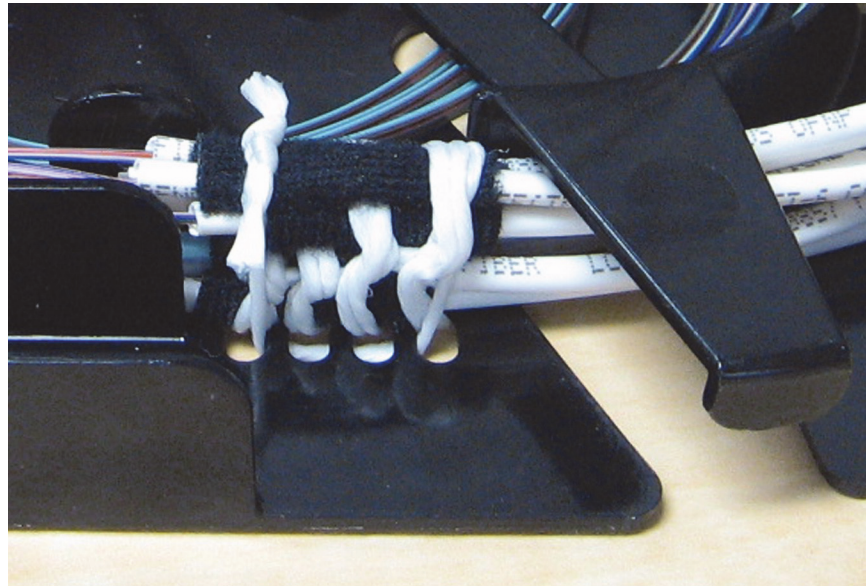
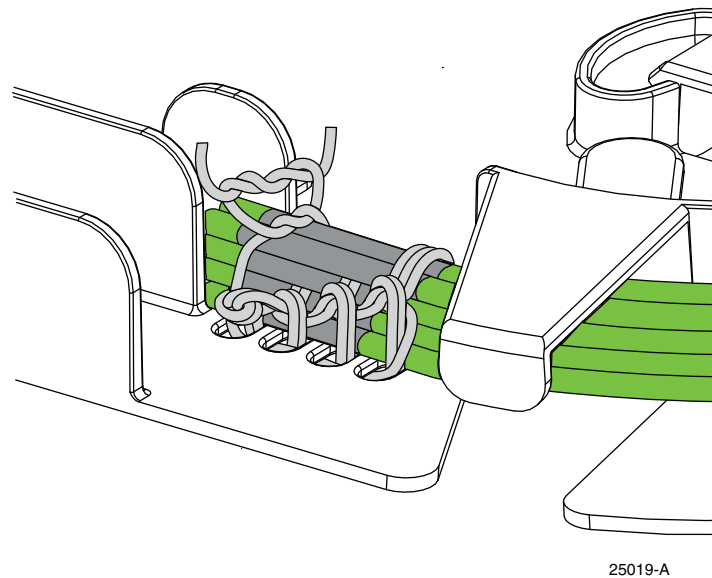
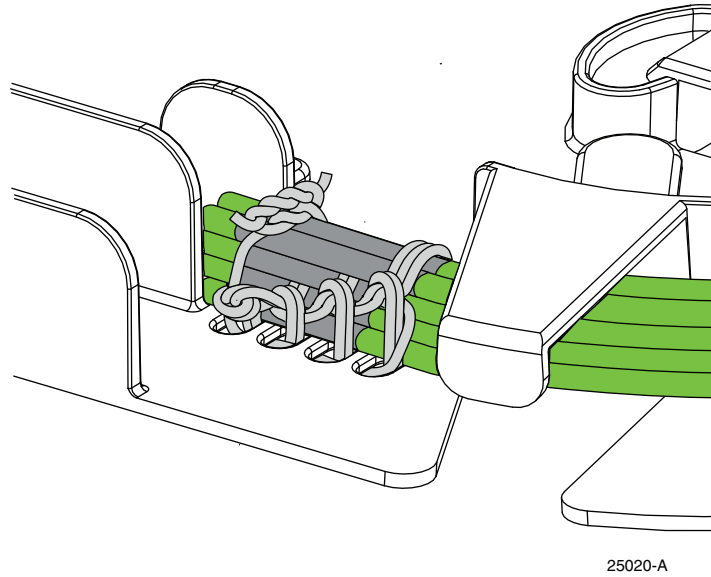

Figure 14. Completed Lacing Stack in Splice Tray
Figure 26. Extra Twist
Figure 27. Final Knot Completed
Depending on application and type of cable being used, the NG4access splice tray may accommodate 24, 48, or 72 splices. Table 2 summarizes the possible combinations of cable type and splice method that may be used and how the cable subunits are stacked up on the fiber breakout deck for lacing. Figure 14 shows a completed lacing stack.
- ▶ **Note:** If there is only one layer, tie the cable directly to the breakout deck using a square knot with an extra loop such as shown in Figure 26 on Page 23.
14. Continue with a second wind of a square knot but add an extra twist as shown in Figure 26. Figure 27 shows the completed knot. See also Figure 14 on Page 16.